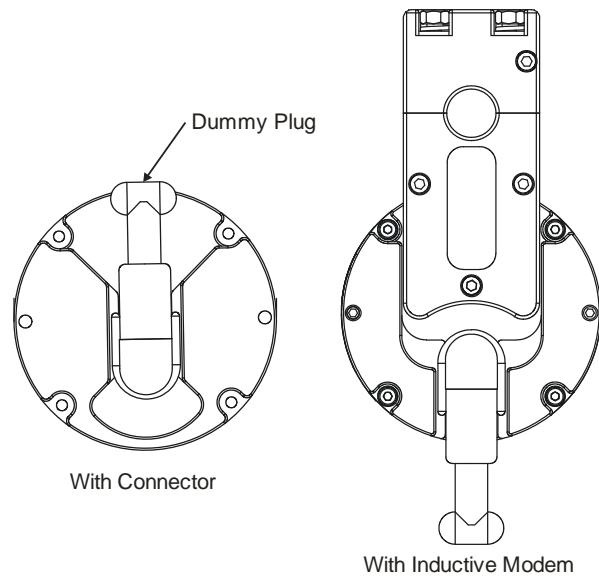

Figure 3. DVS End-Cap Configurations
- The End Cap is configured with an underwater connector or both the Inductive Modem Module (IMM) and underwater connector (see Figure 3).